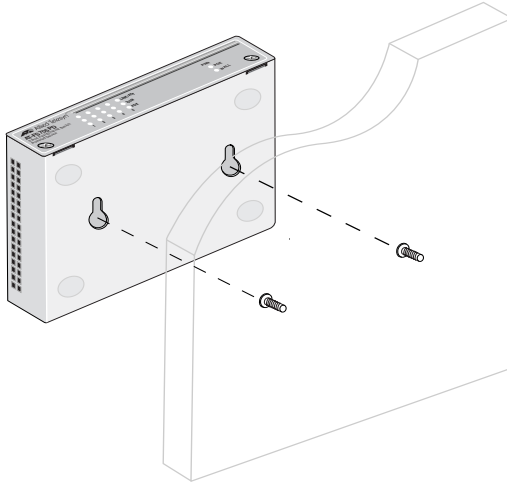

Figure 7 Positioning The Switch Onto The Wall Screws
4. Position the switch horizontally onto the wall screws, as illustrated in Figure 7.